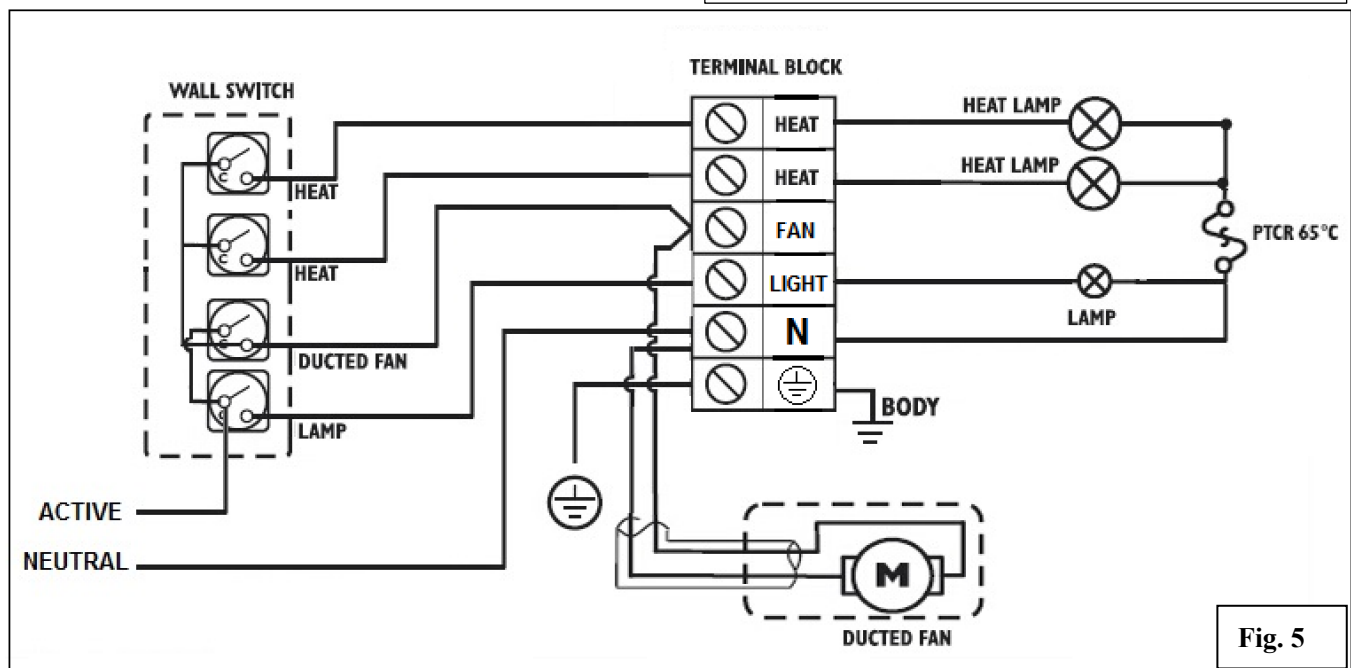

Fig. 5
7. Locate the terminal block on the back of the heater unit (under the cover). Connect the supply wires from the Ducted Fan to the terminal block via the hole on the side. Complete in accordance with the wiring diagram shown in Fig. 5
8. Make the wiring connection of the wall switch supplied to the terminal block on the heater unit, using wiring diagram shown in Fig. 5, and secure the terminal box cover.